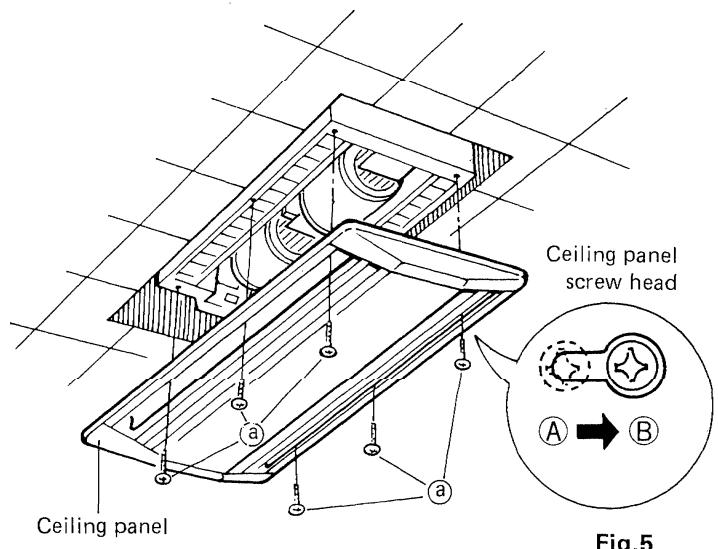

Fig.5
- 1) Loosen the six screws ⑧ (black color).
Slide the entire ceiling panel to the side. The ceiling panel can be removed when the screw heads have moved from ⑨(A) to ⑨(B). Fig 5.